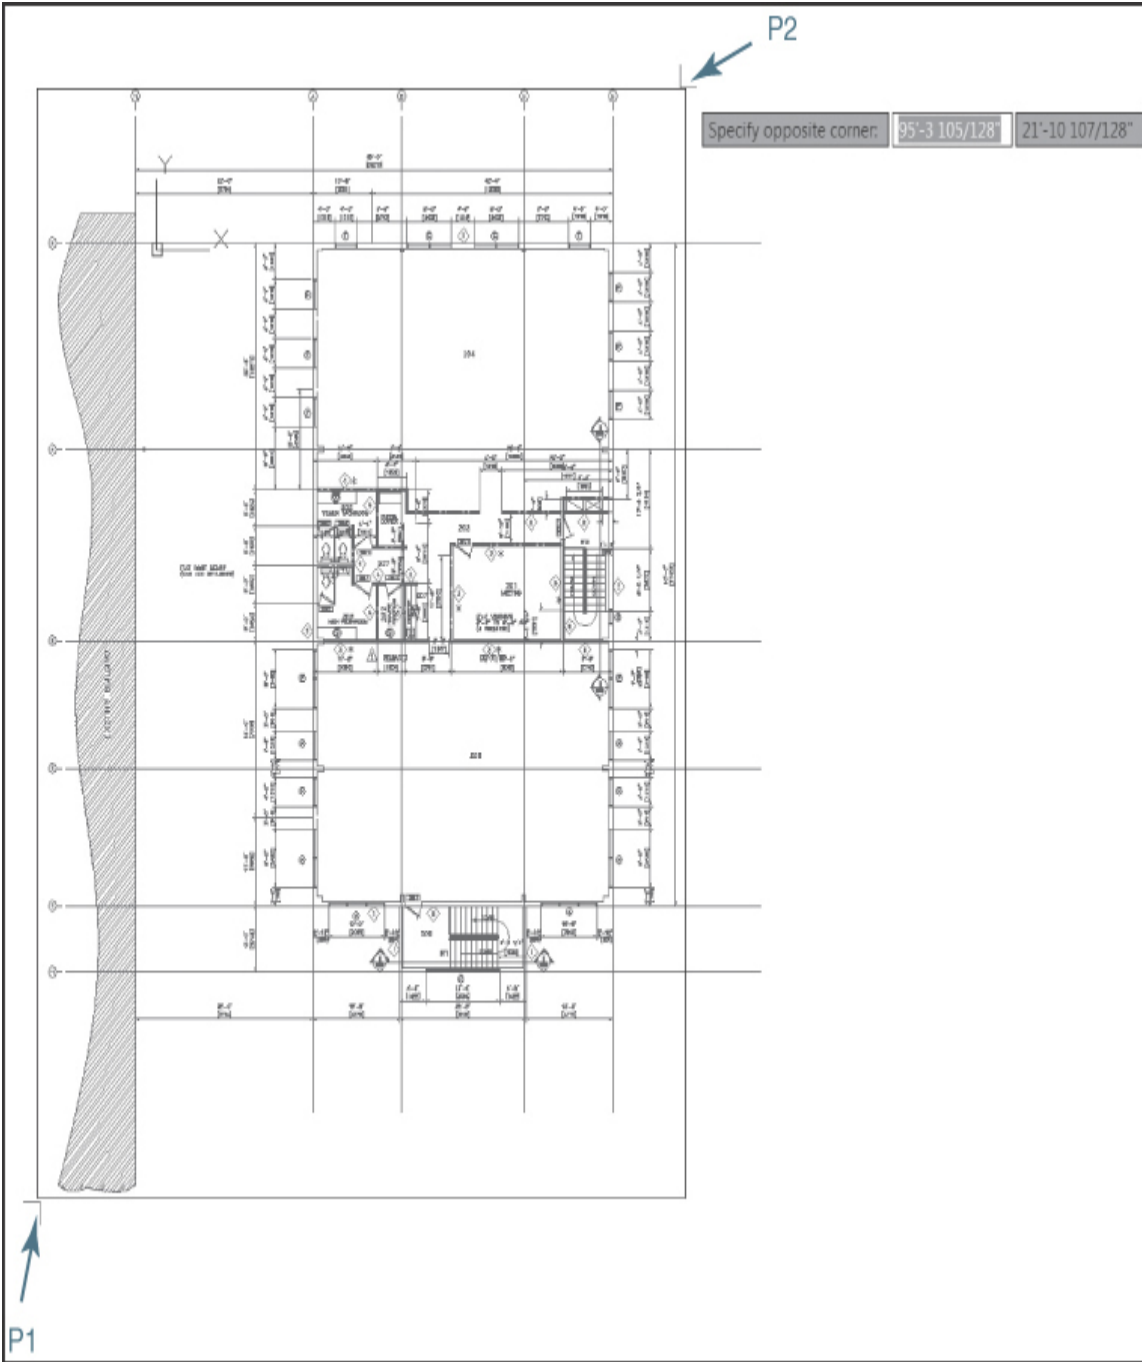

Figure 17-18
- 4 Pick the endpoints at P1 and P2 as shown in Figure 17-18. AutoCAD clips the xrefs around the rectangular area.